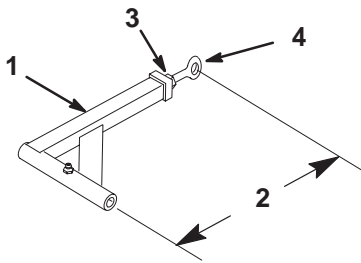

Figure 52
- To adjust the push arms, loosen the jam nut and rotate the ball joint counterclockwise, one turn at a time.(Fig. 52).
- Adjust each side the same amount. Each push arm should have a nominal length of 15-5/16 in. (389 mm) (Fig. 52).